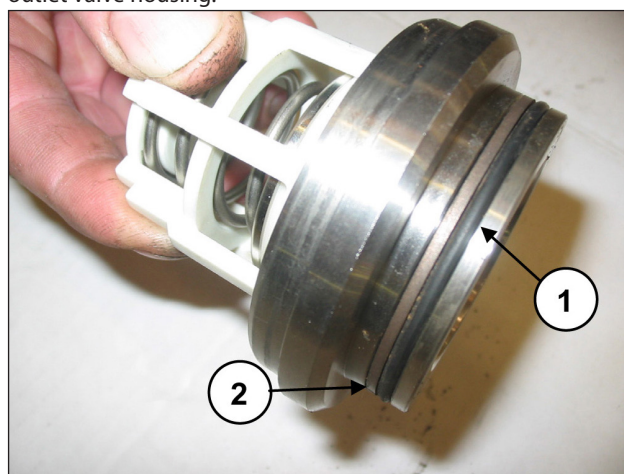

Fig. 117
Fit the O-ring, exploded view pos. 5 (pos. ①, Fig. 117) and back-up ring, exploded view pos. 15 (pos. ②, Fig. 117) on the outlet valve housing.